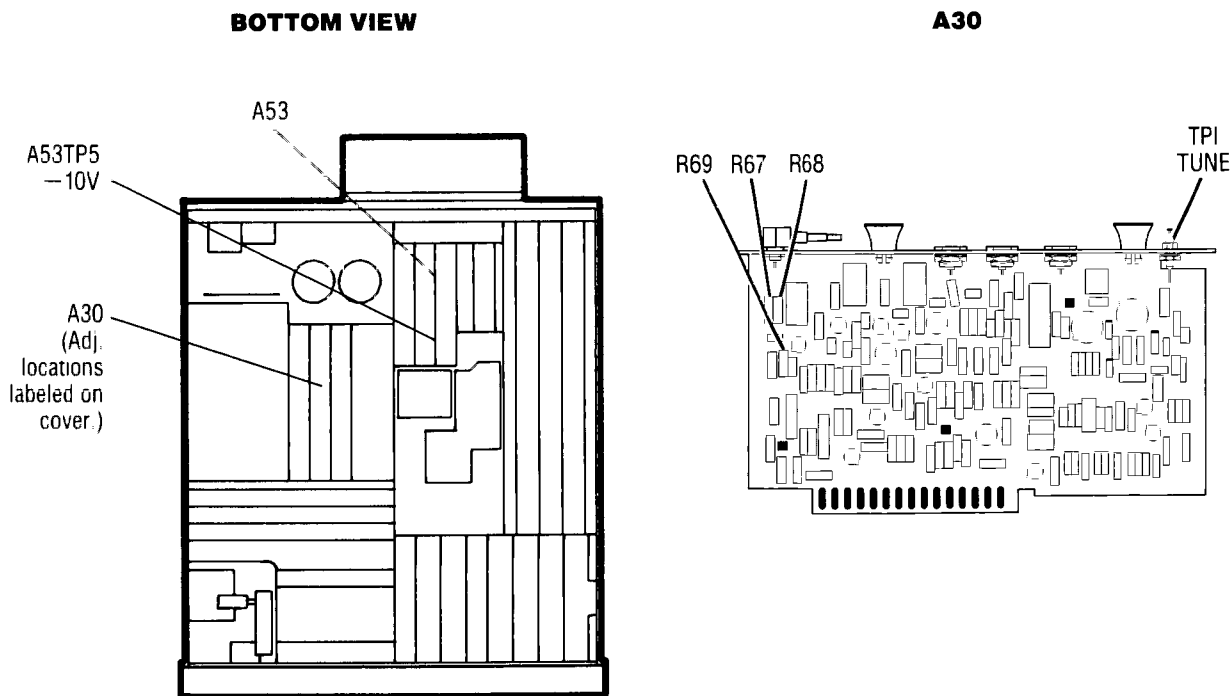

Figure 5-6. Location of A30 100 MHz VCXO Adjustments
18. If the amplitude of the 400 MHz signal is not within 3 dB of -10 dBm, note the amplitude and change the values of A30R67, A30R68, and A30R69 as necessary to adjust the amplitude to -10 dBm \pm 3 dB. Table 5-5 contains a list of attenuations in 1 dB steps and the corresponding values for the attenuator network resistors to adjust the level to -10 dBm. Refer to Figure 5-6 for location of resistors.